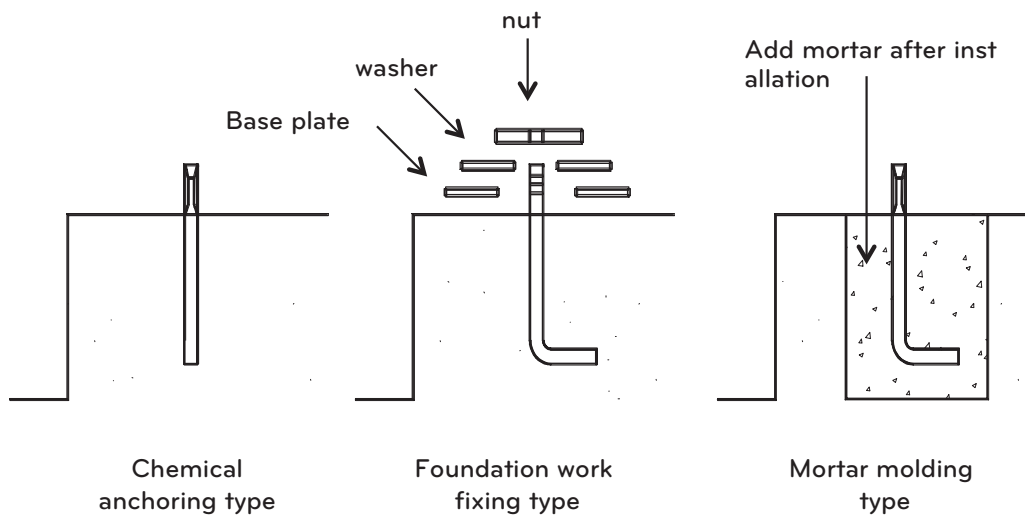

Figure 4. Considerations for foundation work
- 7) The absorption chiller-heater operates normally even if it is not anchored since its own weight is heavy enough. However, when needed, it is recommended to apply one of the works in Figure 4 below before installing the machine.